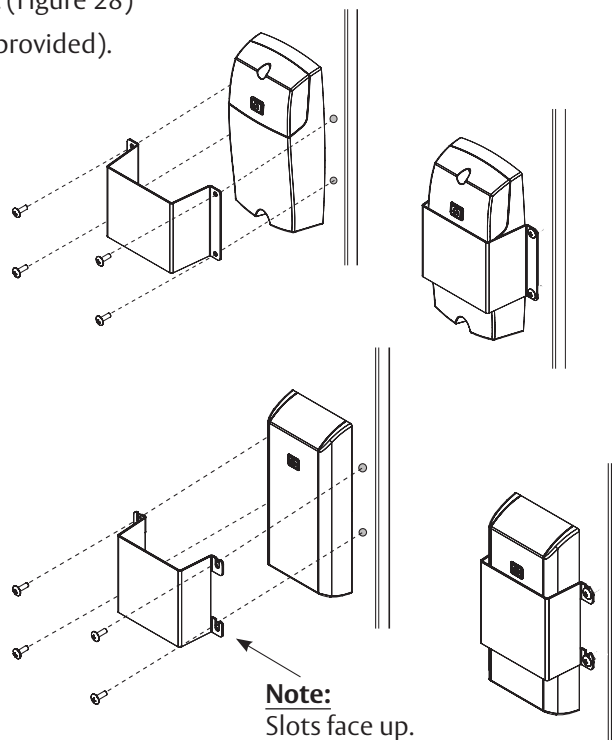

Figure 28
1. Install shield (provided) over inside controller. (Figure 28)